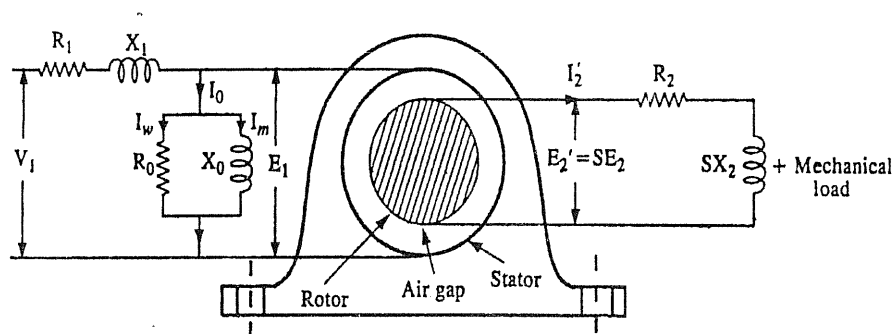

FIG. 4.14 : EQUIVALENT CIRCUIT OF 3-PHASE INDUCTION MOTOR
- The equivalent circuit of 3-phase induction motor is shown in Fig. 4.14, where V_1 is the applied voltage per phase. R_1 and X_1 are stator resistance and leakage reactance per phase respectively.